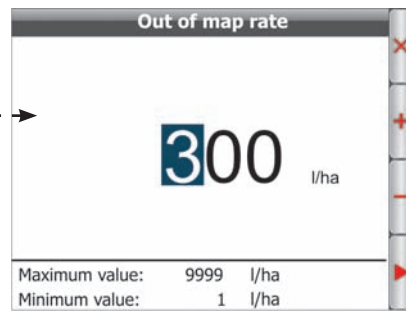

Fig. 208
- F4 Modify spray rate in the areas out of map (Fig. 208)